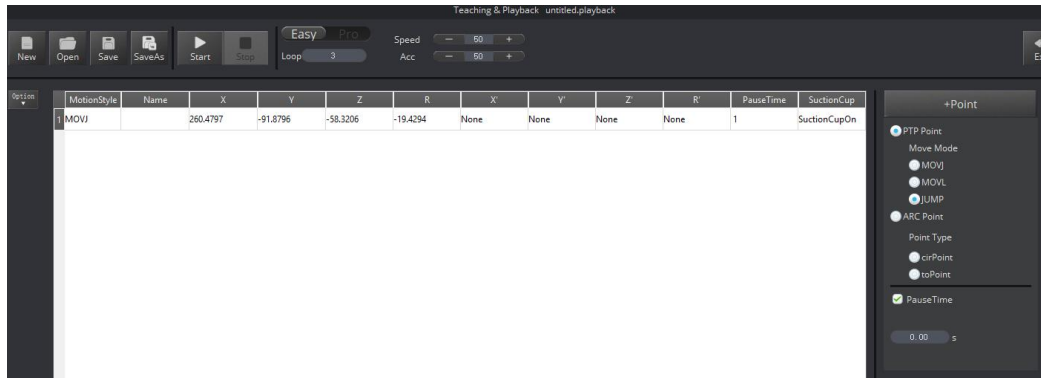

Figure 5.22 Save the start position A
7. Click **+Point** to save the coordinate corresponding to the position A, as shown in Figure 5.22.